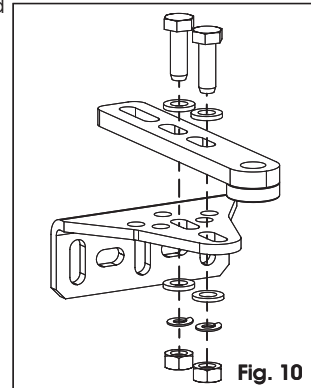

Fig. 10
2. Secure the rear bracket, as indicated in figure 10, so as to satisfy values **A** and **B** determined previously.